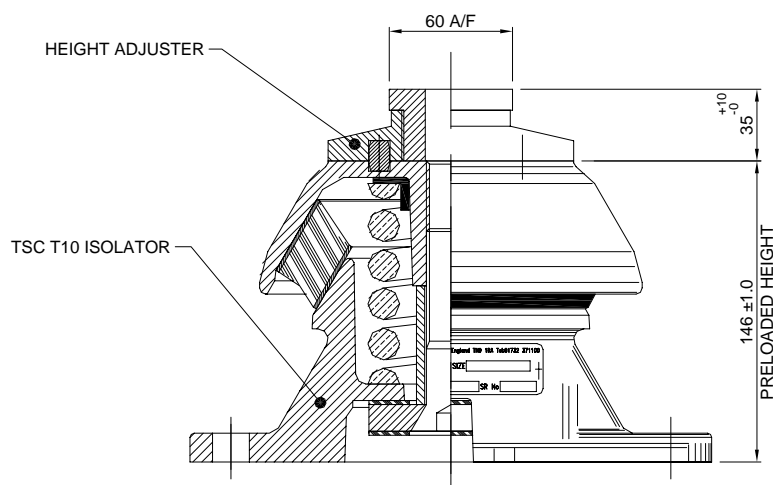

Figure 1
1. The structure beneath the machines should be constructed to form a rigid and reasonably level seating for each group of isolators. The purpose of the height adjuster is to level the machine frame and provide some adjustment of isolator loadings. See figure 1 for isolator height and adjustment capability.